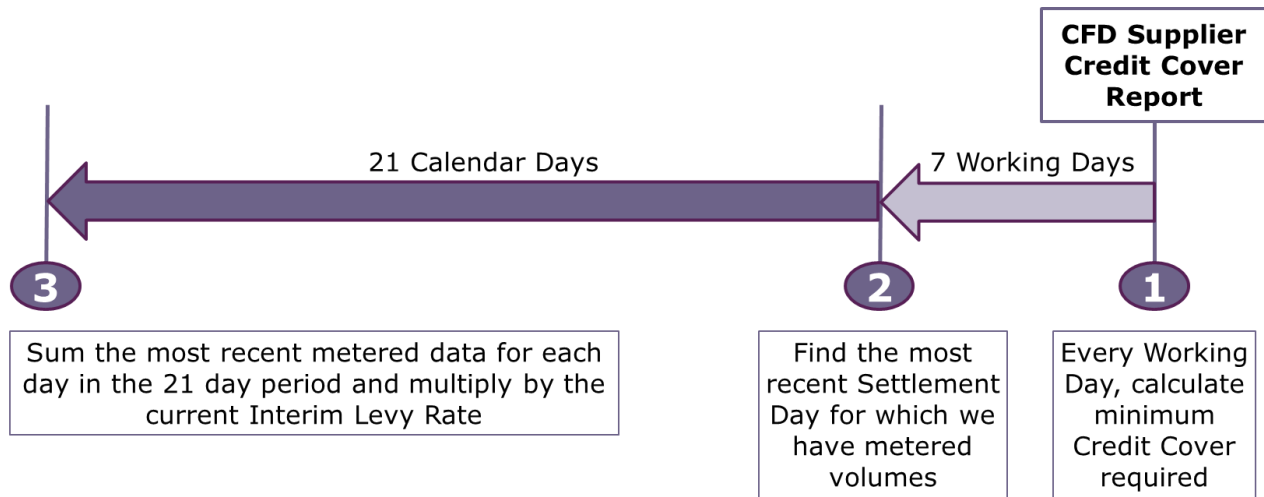

Figure 1: Metered Data Used to Calculate Minimum Credit Cover
For any given reference period this will include metered data from both Interim Information (II) and Settlement Final (SF) settlement runs. **Figure 1** is a representation of the timescales involved with calculating the minimum Credit Cover requirement for a given day.